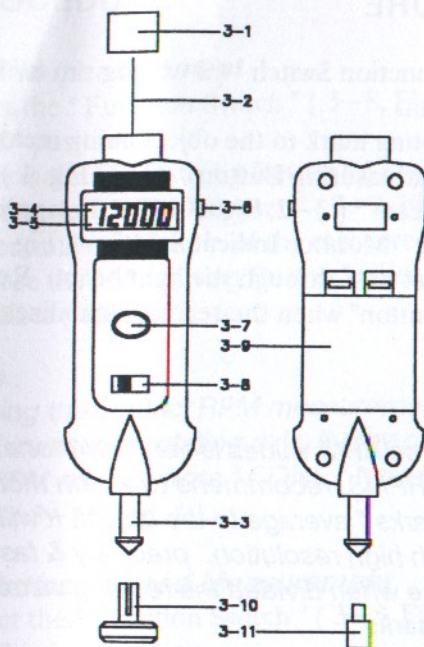

Fig. 1
- 1) Select the " Function Switch " (3-8, Fig. 1) to the " Photo RPM " position.
- 2) Apply a reflecting mark to the object being measured. Depress the " Measuring Button " (3-6, Fig. 1) & align the " Laser light beam " (3-2, Fig. 1) with the applied target. Verify that the " Monitor Indicator " (3-4, Fig. 1) lights when the target pass through the light beam. Release the "Measuring Button" when the reading stabilizes (about 2 seconds).
- 1) Select the "Function Switch" (3-8, Fig. 1) to the "Contact RPM" position.
- 2) Depress the "Measuring Button" (3-6, Fig. 1) & lightly pressing the "RPM Adapter" (3-3, Fig. 1) against the center hole on the hole of the measured rotating axis. Release the "Measuring Button" when the reading stabilizes (approx. 2 sec.).
Making the contact RPM measurement due to different kind measured rotating axis, it may changed the rubber for RPM adapter from "CONE" type to "FUNNEL" type (3-11, Fig. 1).
- 1) Select the "Function Switch" (3-8, Fig. 1) to the "m/min." or "ft/min." position.
- 2) Change the "RPM Adapter" instead of the "Surface Speed Test Wheel" (3-11, Fig. 1)
- 3) Depress the "Measuring Button" (3-6, Fig. 1) & simply attaching the surface speed test wheel to the detector. Release the "Measuring Button" when the reading stabilizes (approx. 2 sec.).
- a. First push the " Memory Call Button " (3-7, Fig. 1) – To display the last value(" LA " and " the last value " will be displayed alternately).
- 2) Open the Battery Cover (3-9. Fig 1), use the " - " type screwdriver or small coin to open the battery cover and remove the battery.